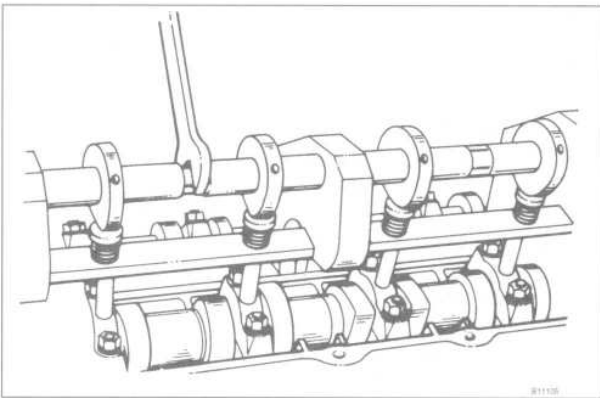

Fig. 27. Special tool (eccentric shaft) being turned to apply pressure to camshaft bearing caps.
3. Turn the tool eccentric shaft until pressure is applied to the camshaft bearing caps. See Fig. 27.